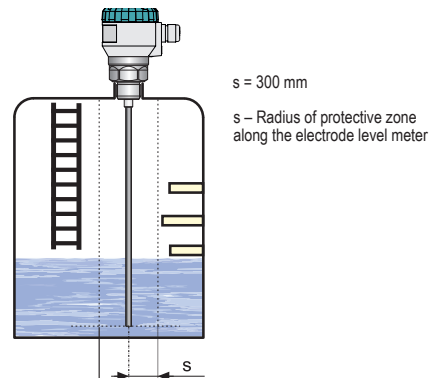

Fig. 12: Installation outside obstacles in the tank
- The electromagnetically guided wave, sent through the product, creates an electromagnetic field along the electrode. Objects in the vicinity of the electrode disturb this field and thereby influence the measurement. Therefore, a protection zone was defined along the electrode with a diameter of 300 mm. Install the product in the tank at a sufficient distance from obstacles (partition walls, climbing aids, agitator ...), see fig. 12.